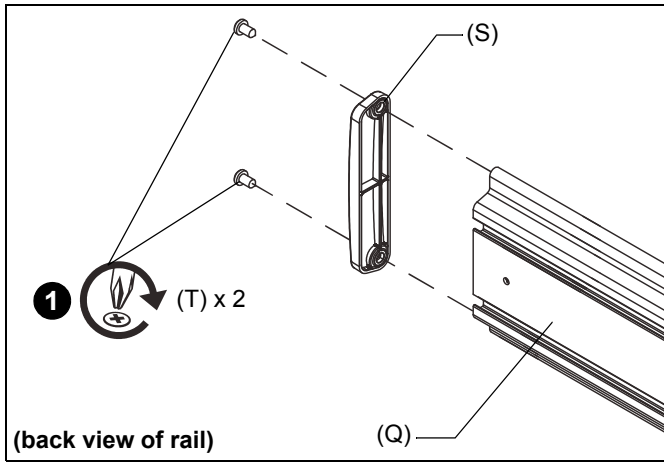

Figure 10
1. Attach one end cap (S) with two 1/4-20 x 1/2" Phillips head screws (T) to end of mounting rail (Q). (See Figure 10)